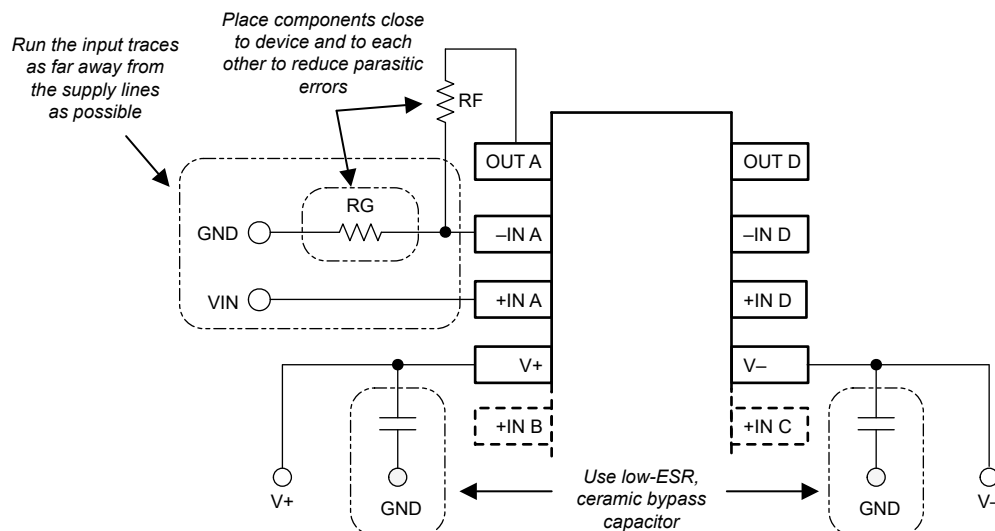

Figure 10-1. Operational Amplifier Board Layout for Noninverting Configuration
- Place the external components as close to the device as possible. As illustrated in Figure 10-1, keep RF and RG close to the inverting input to minimize parasitic capacitance.